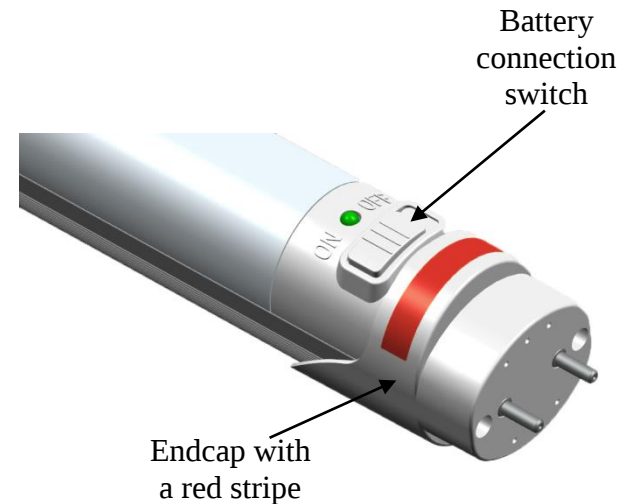

Fig. 2
8. **IMPORTANT:** Turn on a battery connection switch near the endcap with the red stripe. The battery connection switch comes with a default “off” to prevent the built-in battery from being depleted and damaged. The lamp may be lighted in a dimmed light level powered by the built-in battery (see Fig. 2).